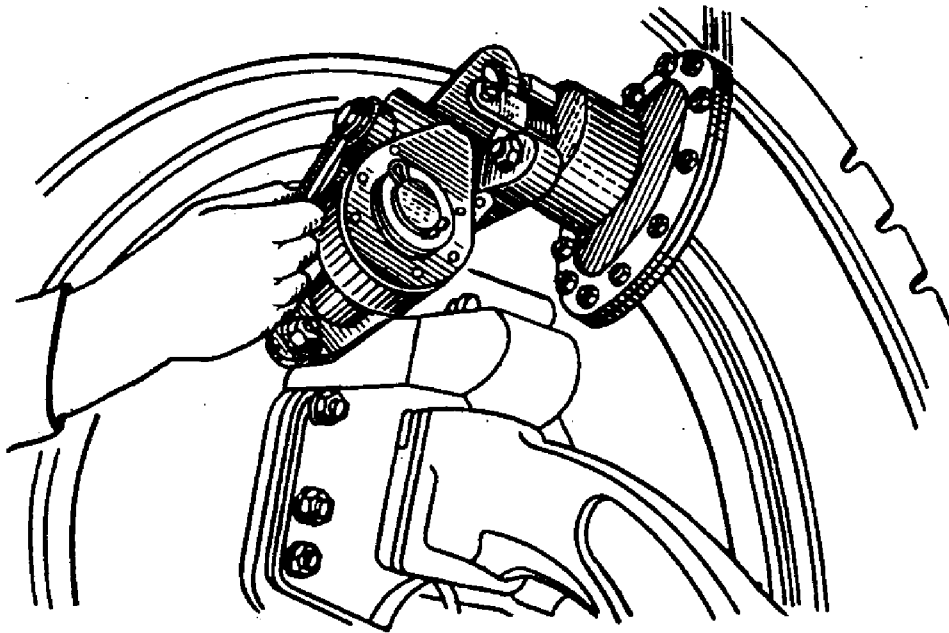

FIG.43. ADJUSTING WHEEL BRAKE BY WORM OF BRAKE CHAMBER
2. Turn the brake chamber worm (Fig.43) counterclockwise until the wheel rotated by hand is braked.